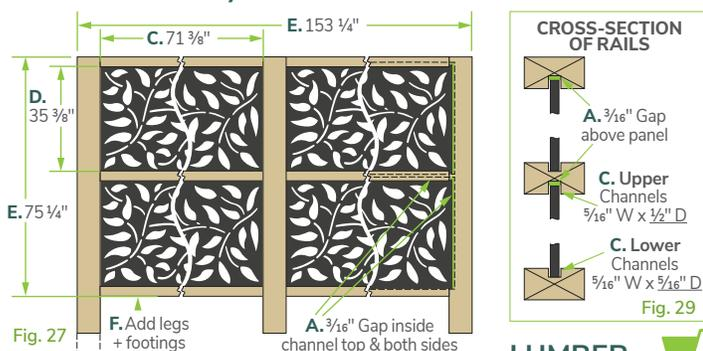

Fig. 27
1. Plan frame size + post legs and footings (Figs. 27 & 30).